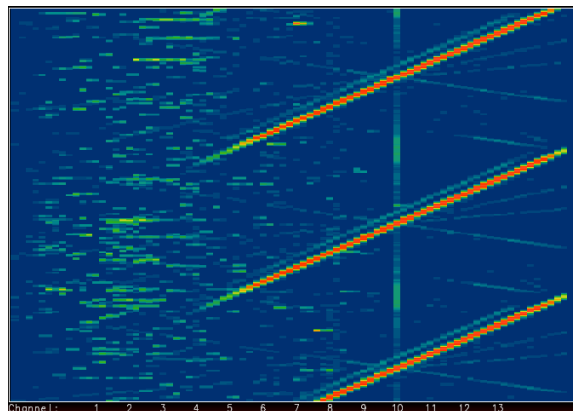

Figure 3: Spectrum Analyzer Output
4. If everything works, the radio's green LED will illuminate to indicate the radio is transmitting, and your node will be generating a sweeping sinusoid at RF. You can observe the waveform on the spectrum analyzer in the lab. It should look something like Figure 3.